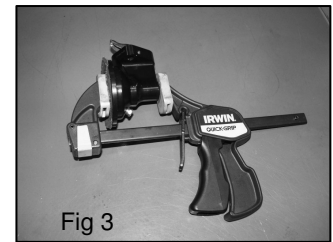

Fig 3
3. To remove the diaphragm and pump arm, compress the diaphragm with a 6" soft jaw quick clamp (Fig 3)